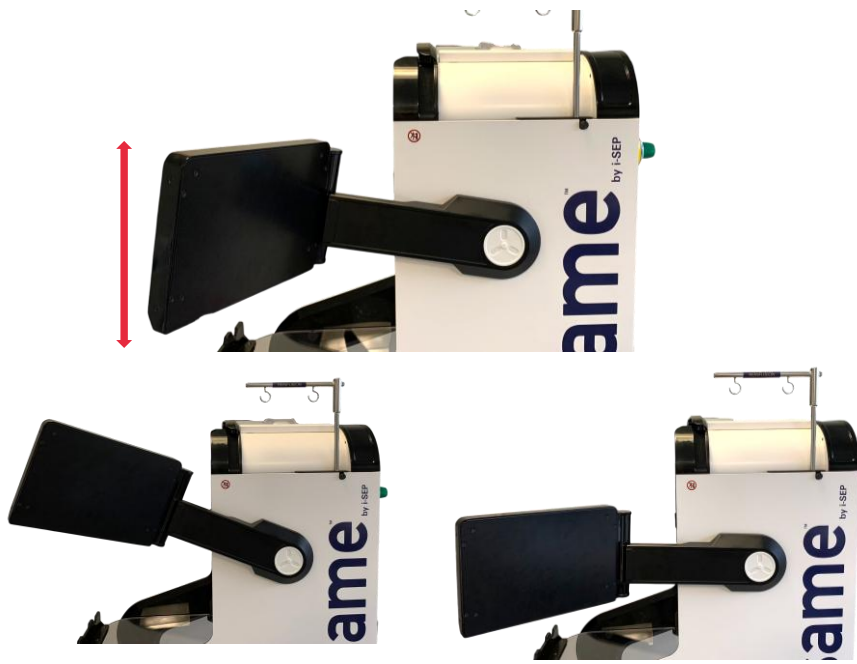

Figure 9: Vertical screen movement
- 1) Modification of the height from 0 to + 30 cm (see Figure 9).